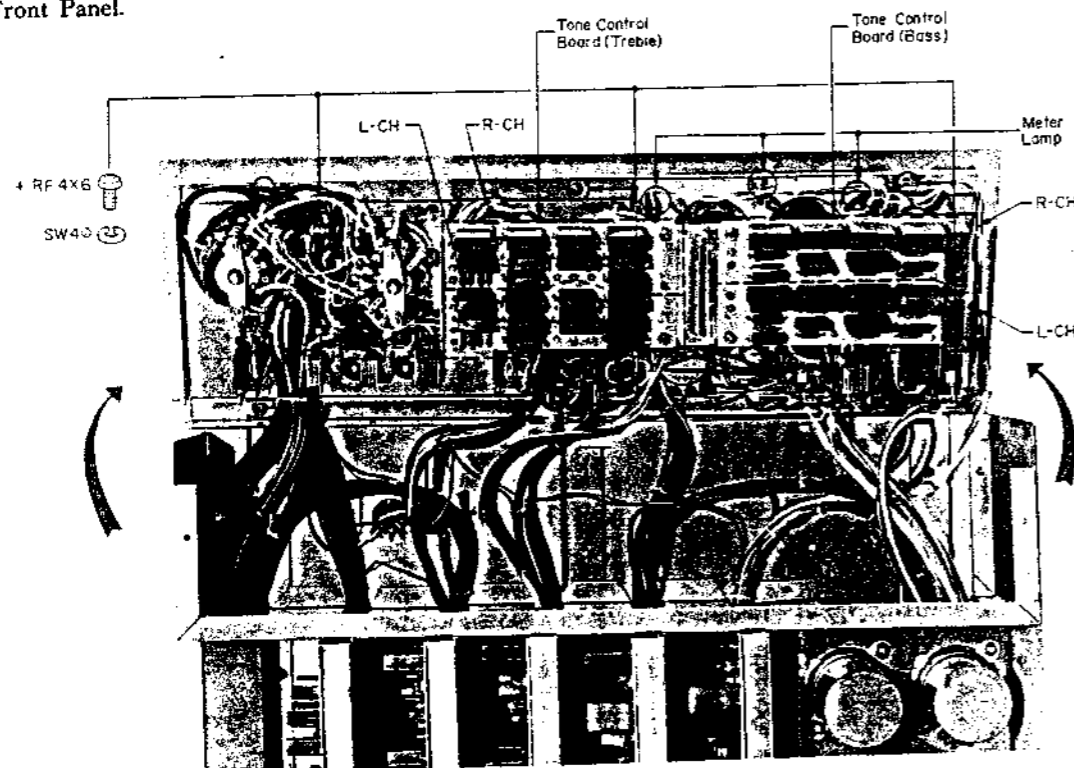

Fig. 2-4. Removal of Front-Panel Ass'y
- e. The Front Panel Assembly is now free, and may be tilted forward and down as shown in Fig. 2-4. Place protective pads under the Front Panel to prevent it from being scratched.